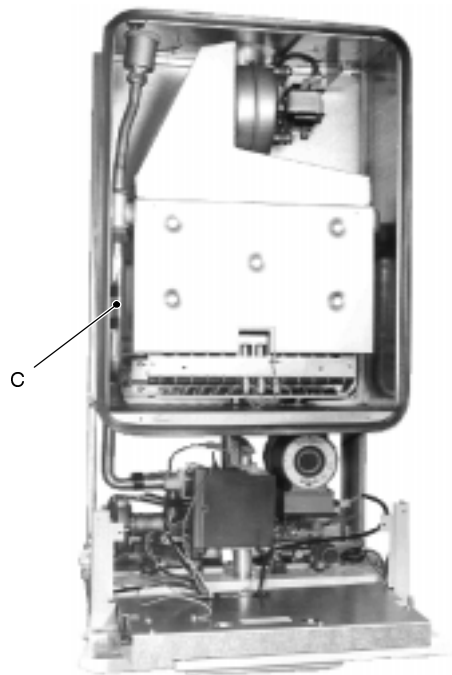

fig. 81
- the temperature probe C which is fitted on the outlet pipe of the main heat exchanger (fig. 81)
Verify the soundness of the fitting between the main circuit pipe and the temperature probe C (fig. 81).